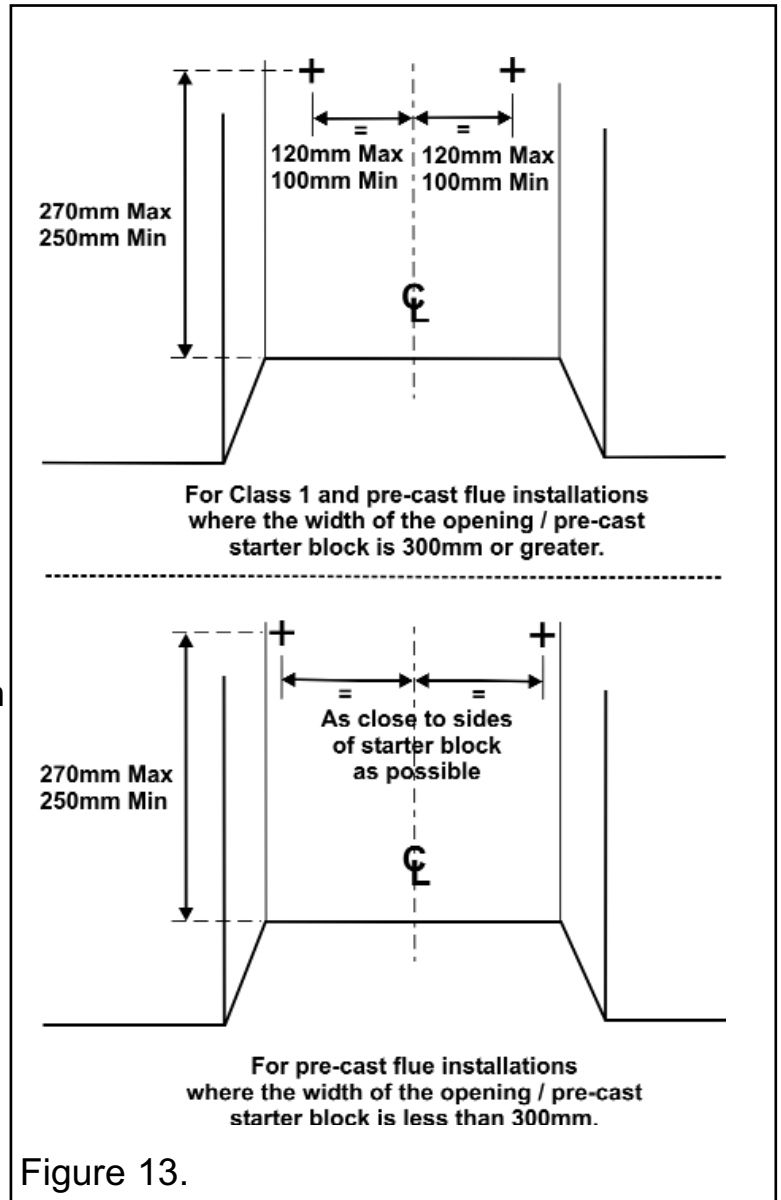

Figure 13.
2. Drill two holes in the rear wall of the fireplace for the eyebolt plugs. The holes should be drilled within the range of positions shown in figure 13 using a suitably sized masonry drill bit for the fibre / wooden plugs supplied. The holes should be equidistant each side of the centre line of the fireplace to ensure that the appliance finishes centrally in the opening when tension is applied to the cables.